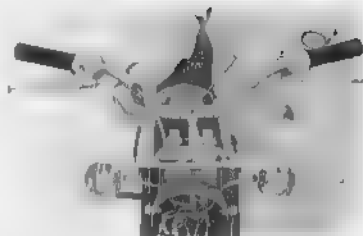

Fig. 4.6 Removing handle pipe ① Handle pipe
5. Remove the four hex bolts mounting the handle pipe between the upper and lower holders and remove the steering handle (1) together with the control cables. (Fig. 4.6)